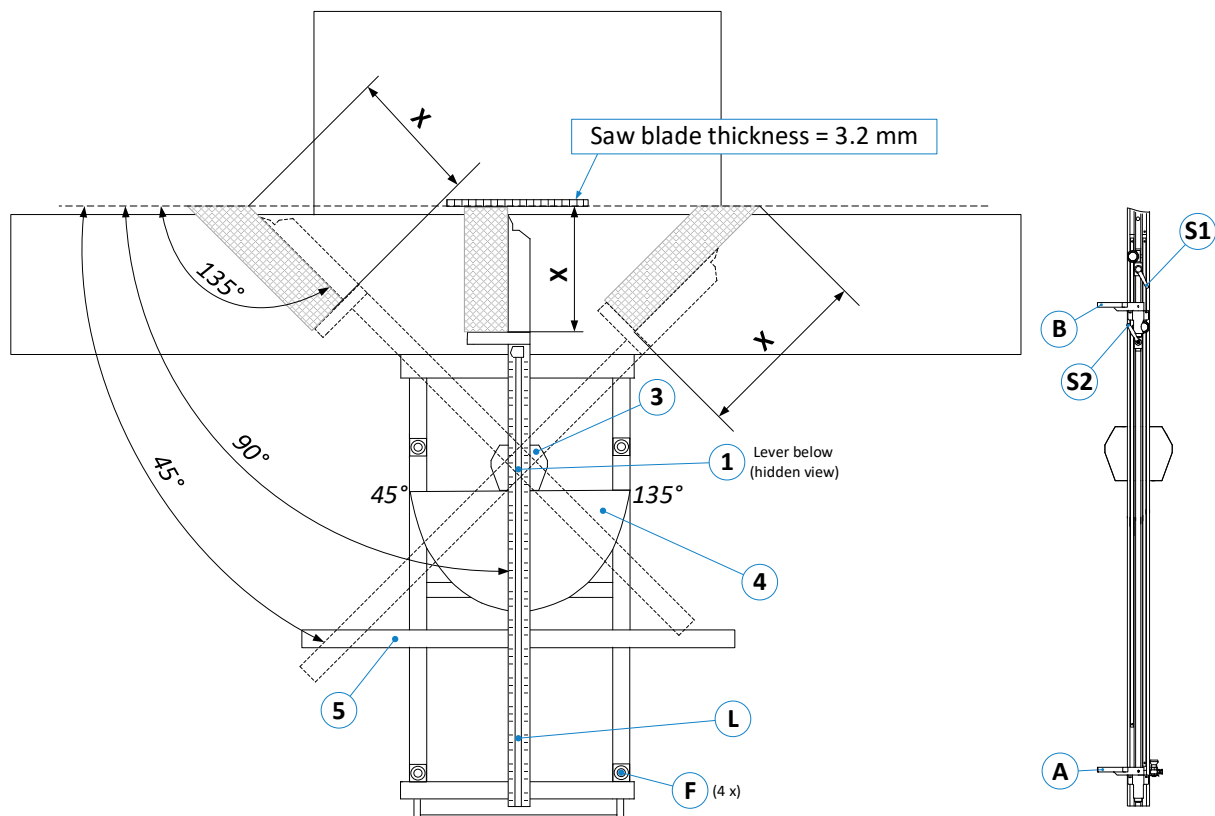
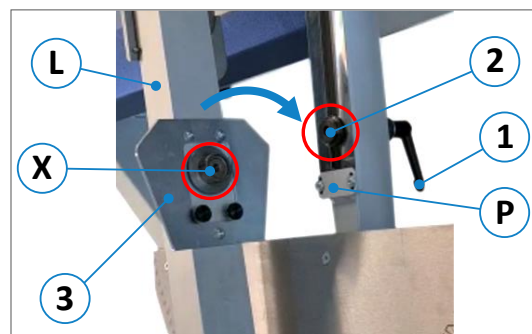

Figure 60: Super Gehrfix I overview
Figure 61: Attach cross-cut fence
- Loosen clamping lever (1) and push the locating bolt (2) in the direction of the stop plate (P) as shown in ⇒ Figure 60 and ⇒ Figure 61.
- Now place the cross-cut fence (L) on the cross slide so that the locating pin (2) can be inserted into the receptacle (X) on the underside of the stop plate (3).
- Then tighten the clamping lever (1) again.